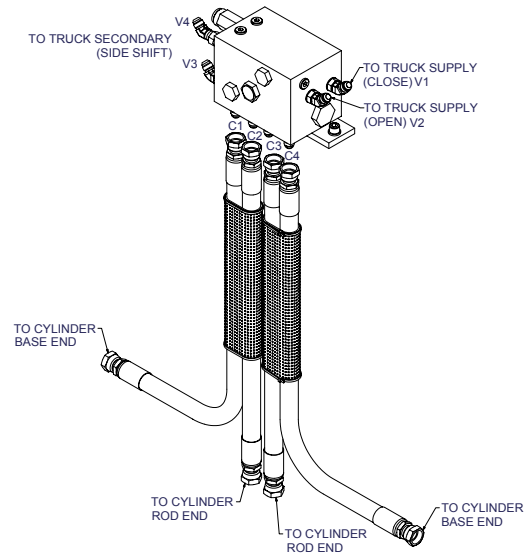

Figure 4-13, Hydraulic Valve
1. Turn off the truck's power and activate the hydraulic functions in both directions several times to relieve the built up hydraulic pressure. (Figure 4-13)